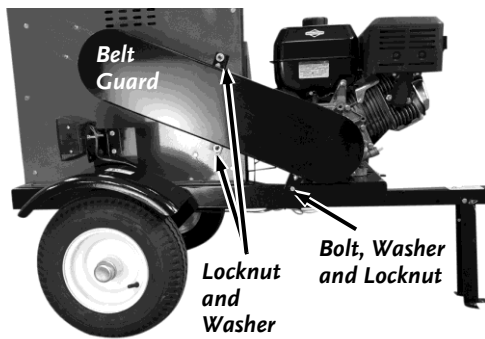

Figure 38
1. Remove the Bolt, Washer and Locknut that attaches the lower area of the Guard to the Frame (**Figure 38**).